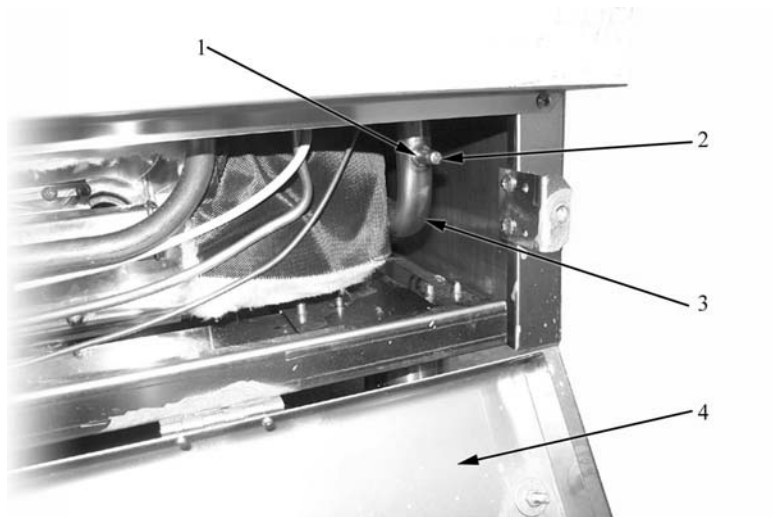

Fig. 5
- Unscrew the knobs (item 1 in Fig. 4) and open the bottom front panel (item 4 in Fig. 5);
- Unscrew the screw (item 2 in Fig. 5) on the pressure port (item 1 in Fig. 5);
- Replace the screw (item 2 in Fig. 5) and check there are no leaks.